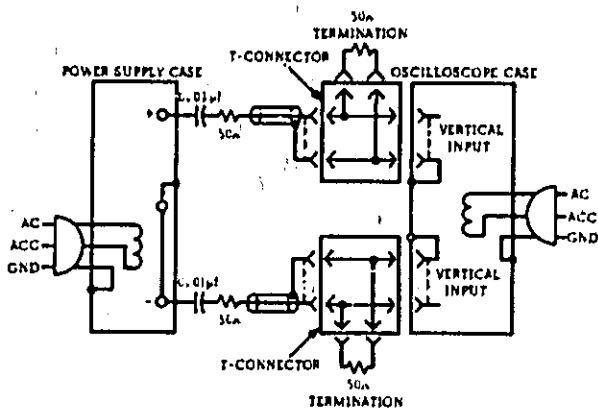

Figure 5-7. CV Noise Spike Test Setup
- As shown in Figure 5-7, two coax cables, must be substituted for the shielded two-wire cable.
5-30 The circuit of Figure 5-7 can also be used for the normal measurement of low frequency ripple and noise; simply remove the four terminating resistors and the blocking capacitors and substitute a higher gain vertical plug-in in place of the wide-band plug-in required for spike measurements. Notice that with these changes, Figure 5-7 becomes a two-cable version of Figure 5-6B.